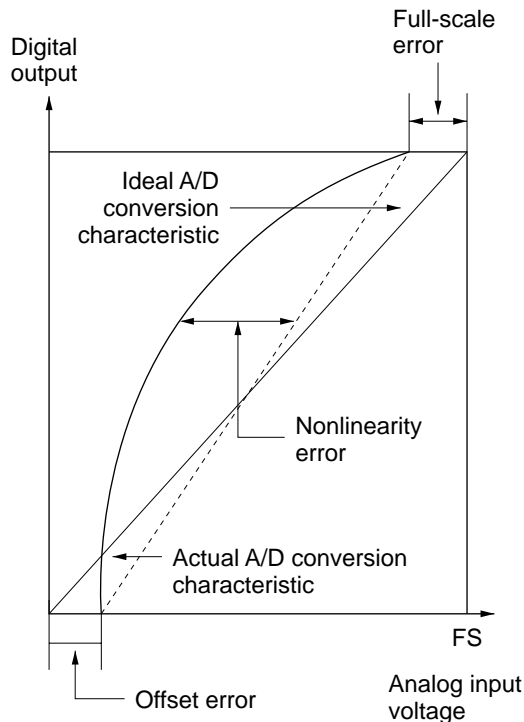

Figure 15.10 A/D Converter Accuracy Definitions (2)
- Offset error:Deviation from ideal A/D conversion characteristic of analog input voltage required to raise digital output from minimum voltage value 0000000000 to 0000000001 (figure 15.10)
- Full-scale error:Deviation from ideal A/D conversion characteristic of analog input voltage required to raise digital output from 1111111110 to 1111111111 (figure 15.10)